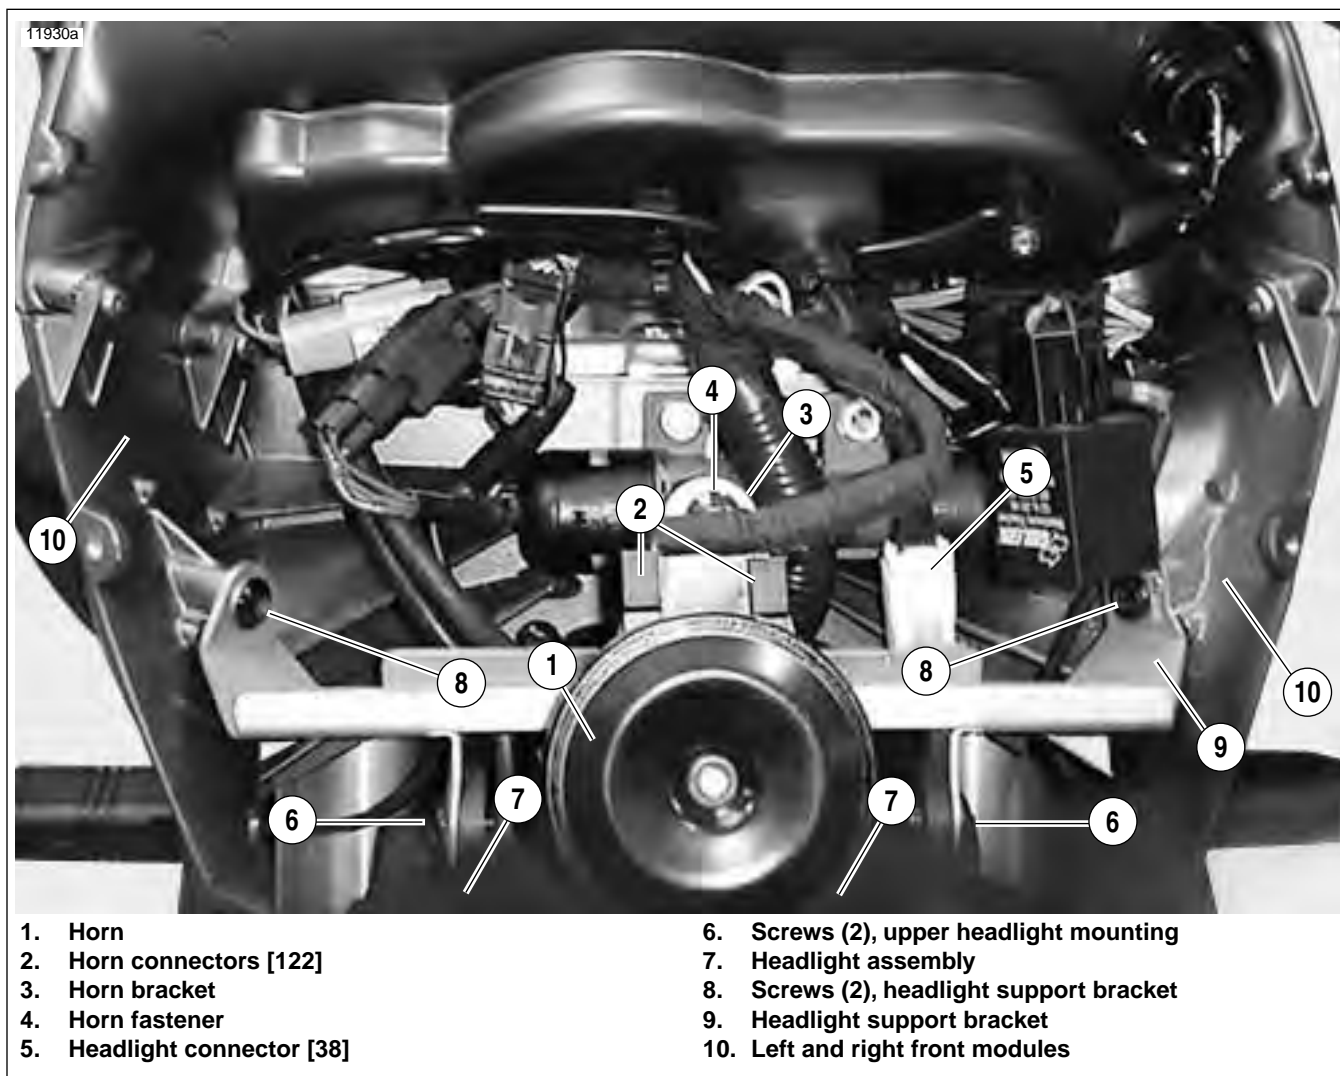

Figure 2-110. Headlight and Support Bracket
1. See Figure 2-110. Install headlight support bracket (9).
2. Apply LOCTITE 272 (red) and install fasteners (8) securing headlight support bracket/turn signal flasher to left and right front modules (10) and tighten to 48-72 in-lbs (5.4-8.1 Nm).
- a. Install headlight assembly (7) into headlight support bracket (9).
- b. Install both upper headlight fasteners (6) but do not tighten.
5. Connect headlight connector [38] (5).
6. Install horn (1) and tighten fastener (4) to 36-60 in-lbs (4-6.7 Nm).
7. Connect horn connectors [122] (2).